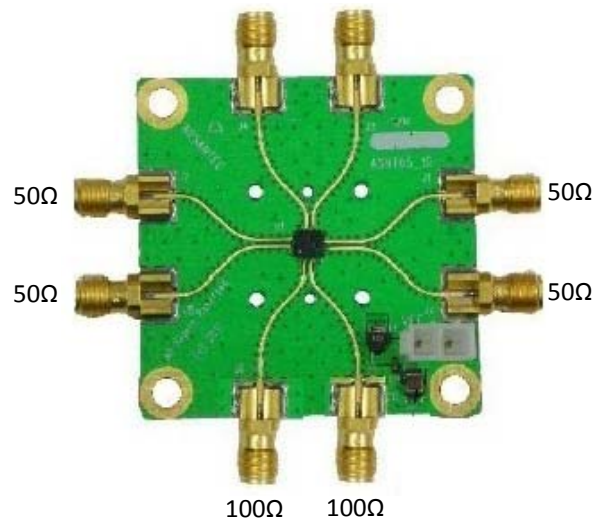

Fig. 2. Impedance of I/O Connectors
2. Measure the resistance of all connector pins to VCC, including the power supply, while making sure the board is grounded. All high speed I/O ports should measure 50Ohms while on the power supply connector, VEE should be high impedance and GND should be a short. icntp/icntn should measure 100Ohms. Fig. 2 shows the resistance values of the described I/O connectors.